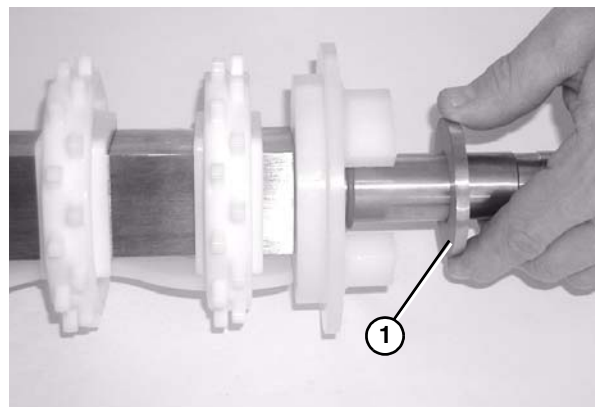

Figure 72
6. Install washer (Figure 72, item 1) onto spindle shaft.